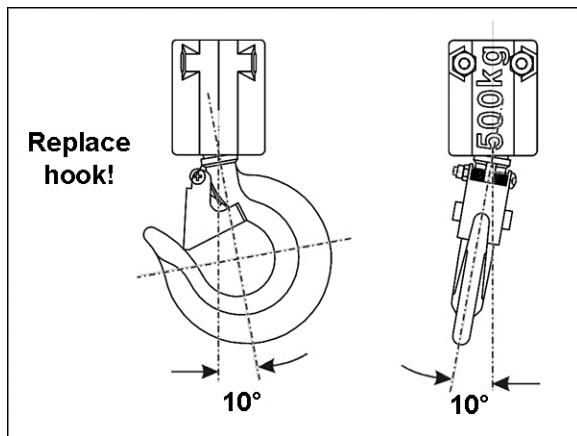

Figure 12
2. The vertical angle at the neck of the hook reaches 10° (see Figure 12).